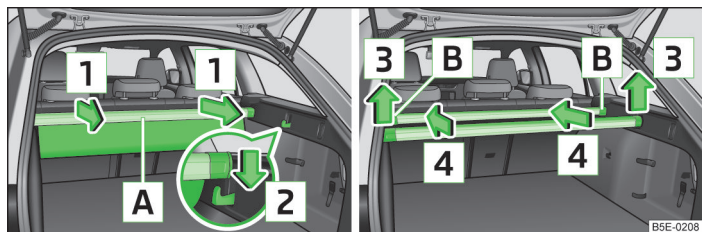

Fig. 93 Multifunction box: pulling out/pushing in
- Grasp the rear bar **A** » Fig. 93 with both hands and pull out the complete box in the direction of the arrow **1**.
- Remove the rear bar from the hook in the direction of the arrow **3** » Fig. 93.